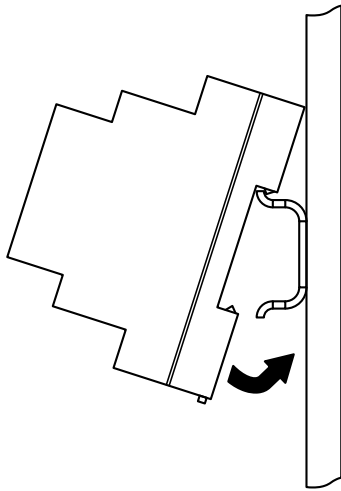
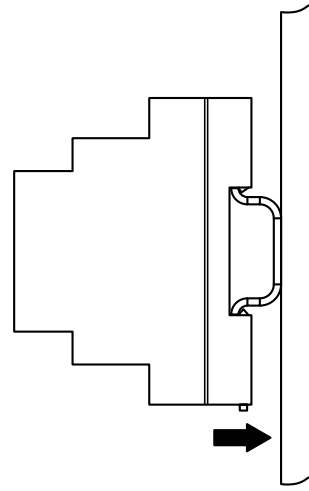
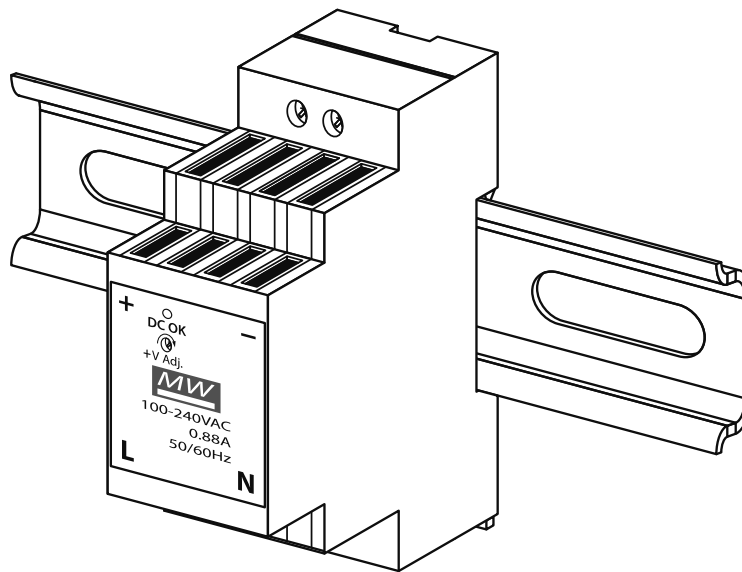

Fig. 19
Fig. 20
Fig. 21
- Fix the power supply to a DIN rail (following **Fig.19**, **Fig.20** and **Fig.21**).